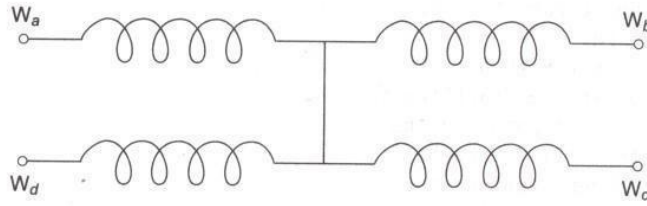

Fig.2 Winding arrangement of a stepper motor.
- Fig.2 shows conceptual positioning of the rotor teeth on the surface of rotor, for a six teeth rotor.